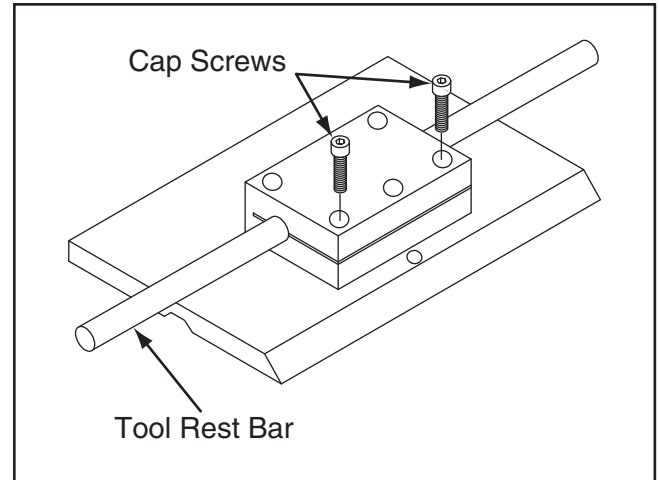

Figure 4. Securing the mounting attachment to grinder tool rest bar.
1. Slide the grinder tool bar rest into the side hole of the mounting attachment, as illustrated in **Figure 4**.
2. Loosely thread the (2) remaining cap screws into the mounting attachment (see **Figure 4**).